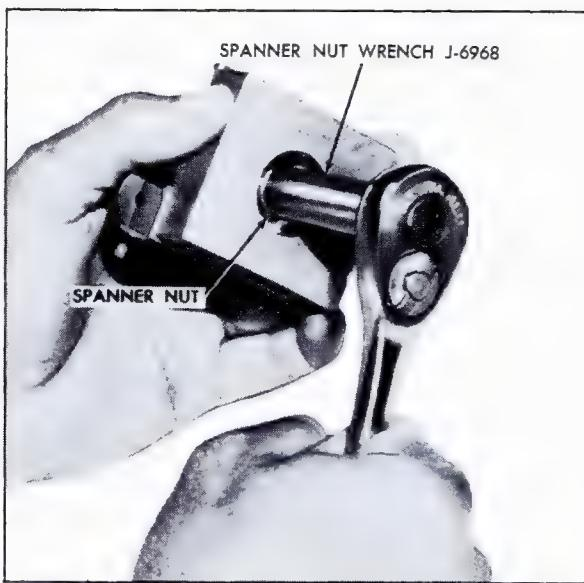

Fig. 12-43 Removing Spanner Nut - Control Switch
4. Remove spanner nut securing control switch to backplate using Spanner•Nut Wrench, J-6968, Fig. 12-43, and remove control switch from backplate.
1. Install control switch on backplate, aligning notch in backplate with tang on control switch. Secure with spanner nut using Spanner Nut Wrench, J-6968, Fig. 12-43.